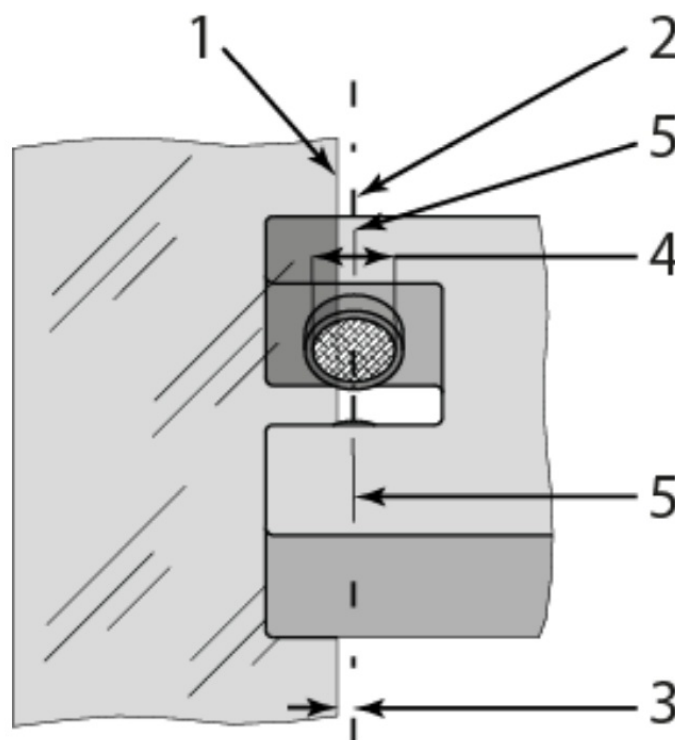

Figure 4: Alignment of the sensor
- The sensor will be properly positioned if the web edge goes through the sensor axis covering half of the ultrasonic transmitter or receiver (ref. to Fig. 4).